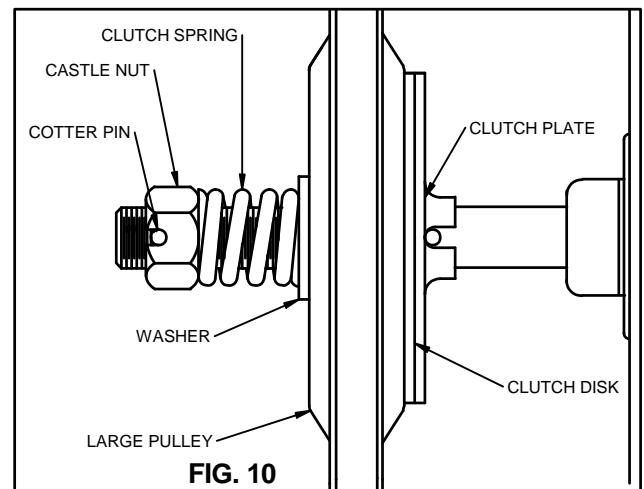

FIG. 10
To adjust clutch sensitivity, remove cotter pin from end of shaft and tighten castle nut until operator will start to lift door. If the clutch begins to slip, press the "stop" button and tighten nut again. Do not turn more than 1/6 turn at a time. Repeat this procedure until door travels smoothly in both directions to the fully open and closed positions. See Fig. 10. After final adjustment, replace and lock cotter pin. Additional adjustments may be required after a short breaking in period.
4. Adjust clutch as shown in Fig. 10, if necessary. Adjustment may be required after a short break-in period.